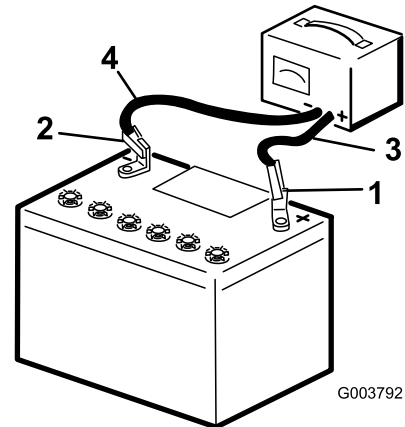

Figure 41
2. Charge the battery at a rate of 3 to 4 A for 4 to 8 hours (Figure 41). Do not overcharge the battery.
3. When the battery is fully charged, unplug the charger from the electrical outlet, then disconnect the charger leads from the battery posts (Figure 41).